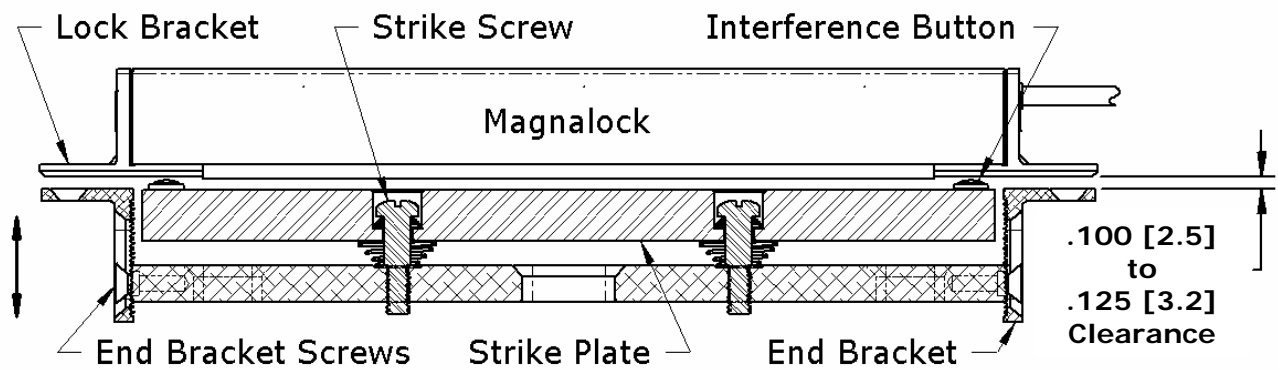

Figure 14 - Magnalock and strike assembly (side view)
De-energized adjustment of the strike height is important for proper door/lock operations. The example in **Figure 14** illustrates the Magnalock with the proper adjustment. Without power applied to the Magnalock, both of the (conical) interference buttons should just clear the lock brackets. Check this by opening and closing the door. To adjust the clearance to be closer, turn each of the strike adjustment (shoulder) screws (located in the center of the strike) counter-clockwise 1/4 turn, one at a time and recheck the clearances. (Both screws do not have to be adjusted the same amount of turns). The adjustments should be made independently so that the strike level is uniform to the door frame and Magnalock installation. **The strike screws are allowed up to two (2) full turns of adjustment each.** If the adjustment required is two (2) full turns or greater, then tighten the screws clockwise back to the down position, loosen the end bracket screws and adjust the end brackets the amount of notches necessary to enable the final adjustments. Repeat adjustments as necessary until a properly functioning gap setting is achieved.